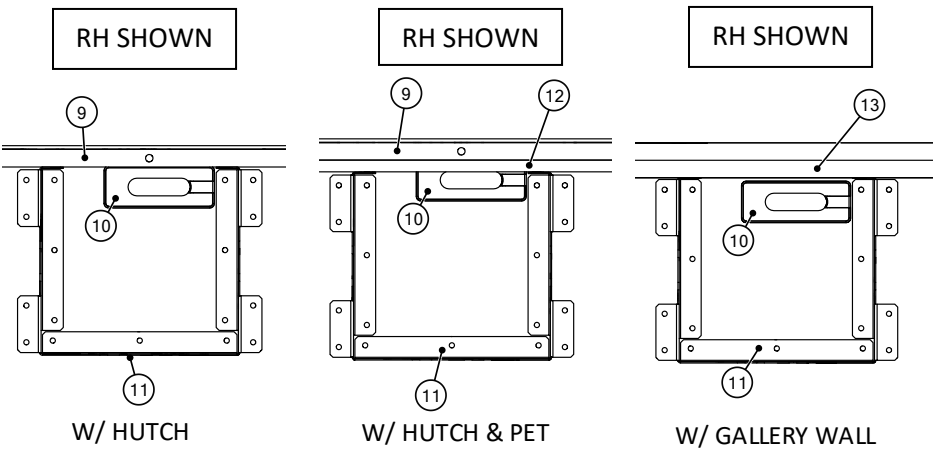

Figure 7
- Align the desk support box to the edge of the right-hand side of the low credenza grommet; push desk support box flush with the hutch back board/PET/ Gallery Wall, (Figure 7).